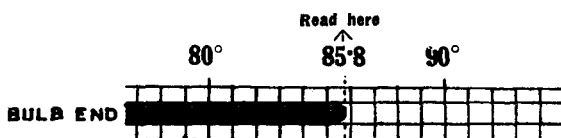
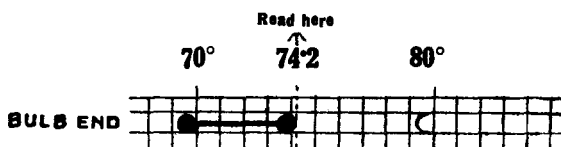

FIG. 4 MERCURY THERMOMETER.
FIG. 5 MINIMUM THERMOMETER
- (ii) **What to observe.**—In the case of the dry bulb, the wet bulb and the maximum thermometers observe the position of the end of the mercury column (*see* Fig. 4) ; but in the case of the minimum thermometer note the position of the end of the dumb-bell-shaped index *furthest from the bulb* (*see* Fig. 5).